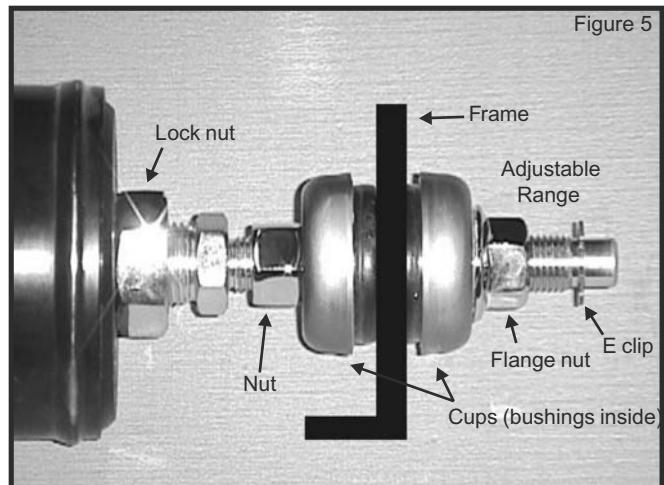

Figure 5
9. Your new adjustable mounts are capable of lowering your ride height up to 2". To lower your ride height, simply loosen the flange-nuts in equal amounts and when the desired height is reached properly tighten the non-flanged nuts back against the bushings(torque to factory recommended specifications). To raise the ride height, reverse the process. Start by loosening the non-flanged nuts away from the bushings, then start tightening the flanged nuts against the bushings (towards the rear of the bike). When the desired ride height is achieved make sure the non-flanged nuts are properly tightened against the bushings. It will help to hold the stud with a 3/8" wrench on the flat on the end of the stud to prevent it from turning while adjusting (this IS what the flat is for). NOTE: The amount the nuts move on the stud may not seem like much, but every 5/16" of an inch of adjustment equals approximately 1" of ride height. It is important that the locknut on the preload adjusting plate is securely tightened (see figure 5).